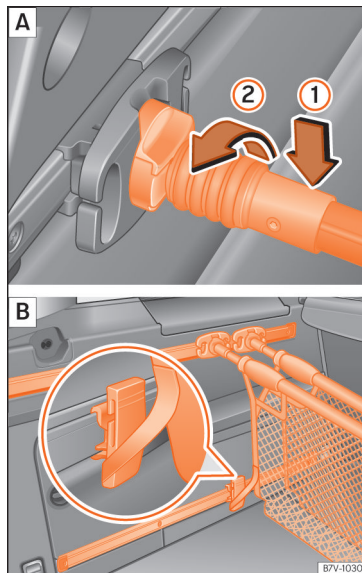

Fig. 147 Hook the baggage net A and use it as a bag B.
Place the attachment rod on the baggage net support » » Fig. 147 ① and rotate 90° to the left ②. The red mark on the attachment rod should not be visible » » ⚠.
- Hook the baggage net attachment strap underneath into one of the movable attachment elements » » Fig. 147 B.